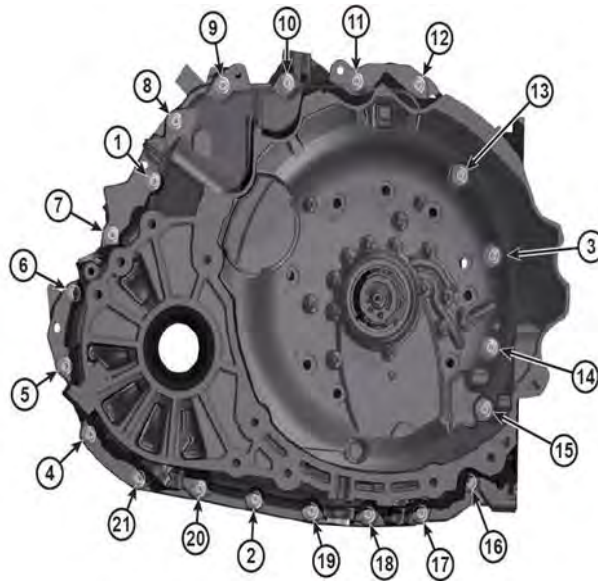

Fig. 24 Transmission Case Bolt Torque Sequence
59. Torque all remaining bellhousing to transmission case bolts, in sequence, to 29 Nm (21 ft. lbs.). See (Fig. 24).